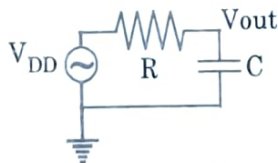

Fig. 2.11.1.
1. Consider applying the RC model to estimate the step response of the first-order system shown in Fig. 2.11.1.